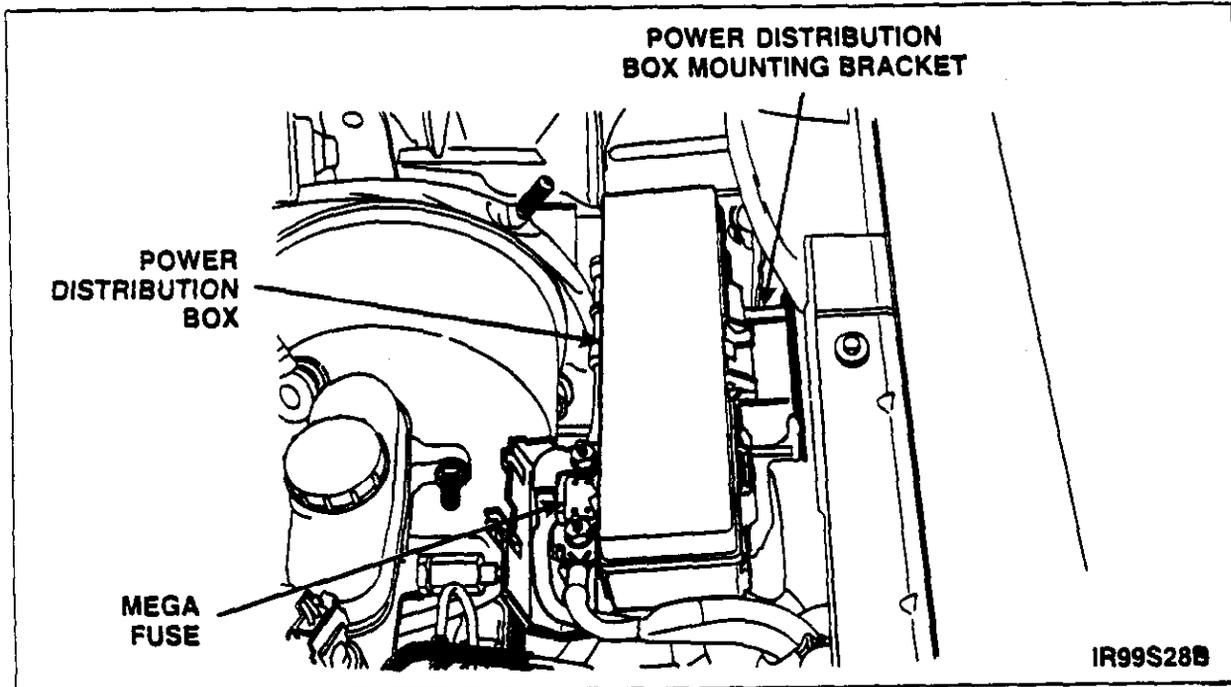

FIGURE 2
Open the mega fuse cover located on the side of the power distribution box, then remove the mega fuse. See Figure 2.
4. Unclip the power distribution box from its mounting bracket and position it aside. See Figure 2.